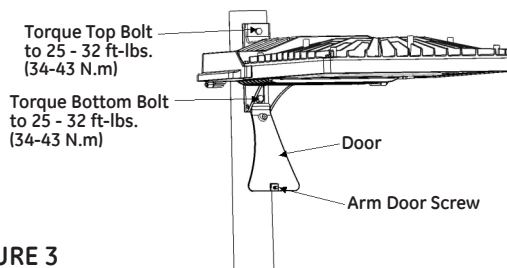

FIGURE 3
- Open Arm Door and Install 3/8 bolt, lock washer and washer inside arm as shown and tighten into nut plate. (See Figure 3 and 4)